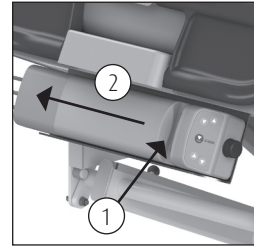

Figure 14 Battery.
- The battery is located at the head-end of the trolley (See figure 14).
- In order to remove the battery, use one hand to unlock the catch (1) on the battery, then slide the battery to the right (2) (See figure 14).